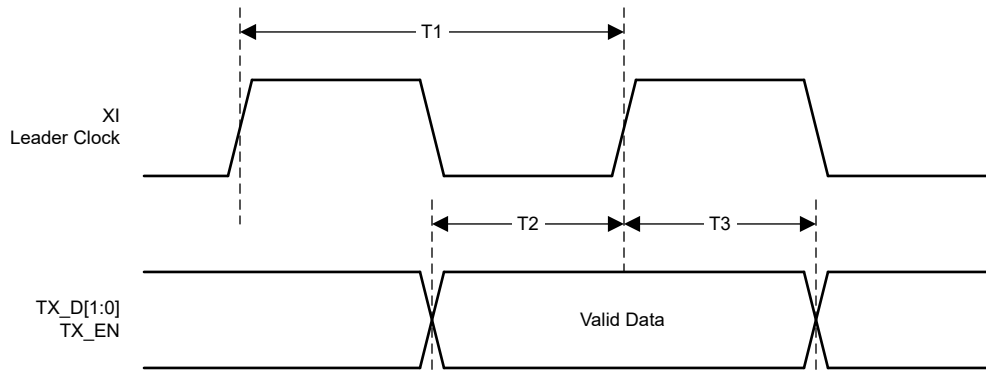

Figure 6-9. RMII Transmit Timing
(1) Specified by production test, characterization, or design.
(2) See Figure 6-9.